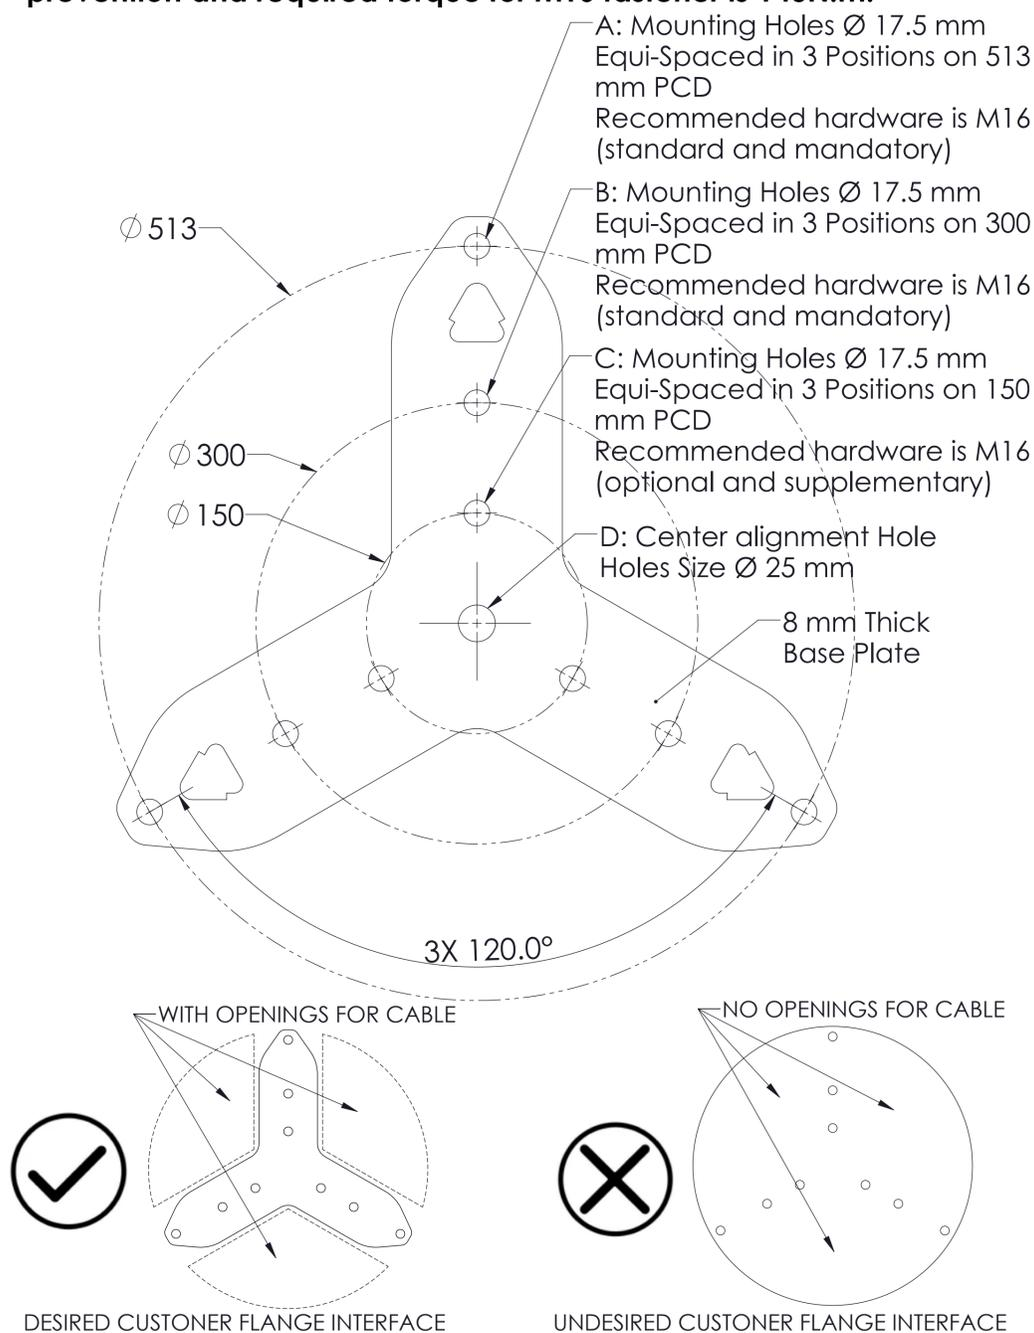

Figure 2. Mounting Interfaces on Base Plate Viewed From Bottom Side of Antenna
1. Refer to Figures 2, 3 and 4 for mounting and boresite alignment. It is recommended that the mounting holes be marked and made ready in the mounting surface prior to installing the antenna.
Route RF cable along metal rails, etc. as much as possible, to enhance noise and lightning immunity. The antenna base provides openings that can be used to route cable through the base when mounting on a monopole (Figure 2). Also, customer prepared mounting flange must provide these openings and certain cable extend length for cable routing, especially for MLOC jumper cables (Refer to 7841814 for details). If cannot achieve these extend length, every cable on MLOC cluster cable set need to be pre-routed one by one per FSJ1P-50A instruction and actual installation scenario before installing to connector. (Figure 4)